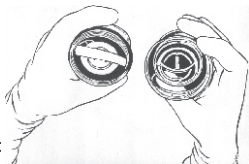

Figure 4 :
9. Hold the inner polycarbonate container in the upright position (as indicated by the direction of arrows) and remove the inner polycarbonate container top by rotating in the anti clockwise direction (Refer figure 4).